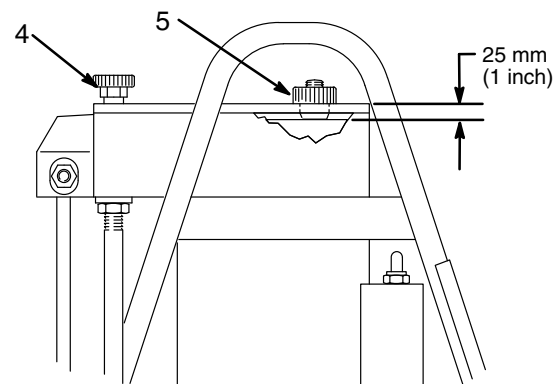

Fig. 11 0269
See Fig. 11.
- Lubricate the screws (25) and then install and torque them to 170–200 in–lb (19–23 N.m).
- Check the hydraulic oil level and add Graco-approved oil as necessary until the level is 1 inch (25 mm) from the top of the plate. See Fig. 11.